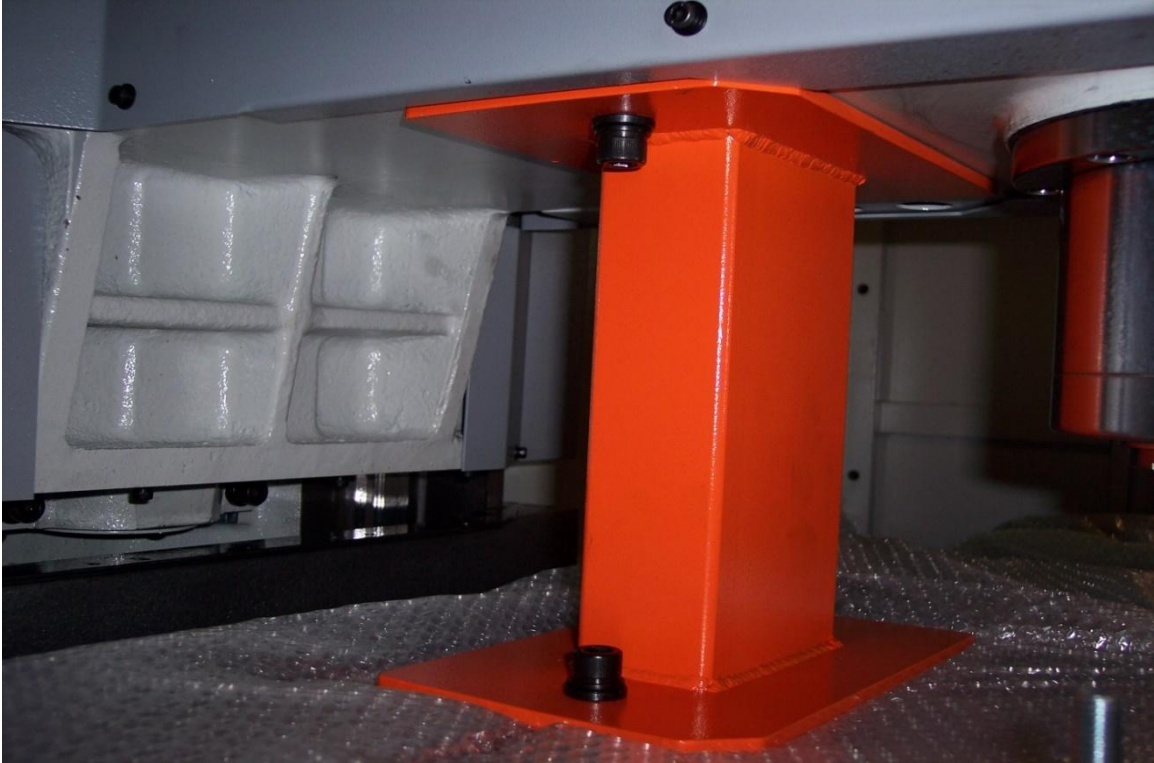

Figure 2.5b
2. Remove screws from head support that attach to the table and ram as shown in figure 2.5b.